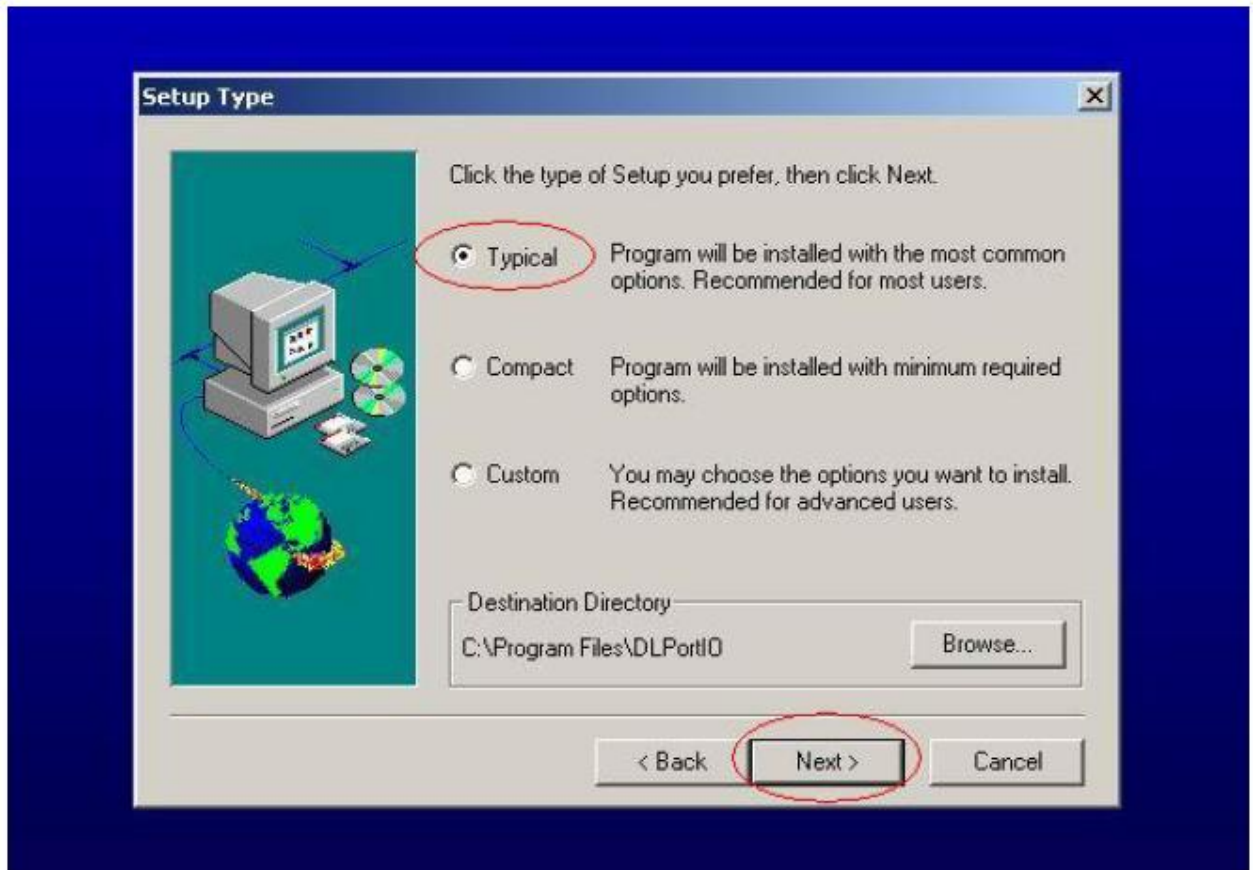

Fig. 0.3
0.3 Choose “Typical “ then press “ Next “ , see Fig. 0.3